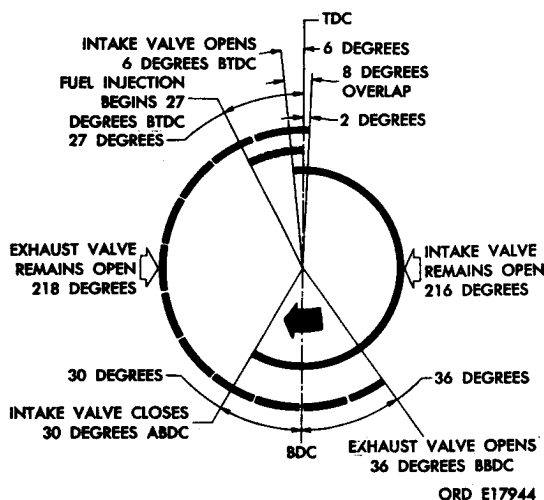

FIGURE 11. ENGINE STROKE CYCLE AND VALVE EVENTS
a. **General.** The Model LDS-427-2 hypercycle Multifuel engine operates on a compression ignition four-cycle diesel principle (fig. 11) similar to conventional four-cycle diesel and gasoline engines. Mechanically the four-cycle diesel and gasoline engines are alike in respect to internal moving parts. The hypercycle compression ignition principle is explained in the following paragraphs.